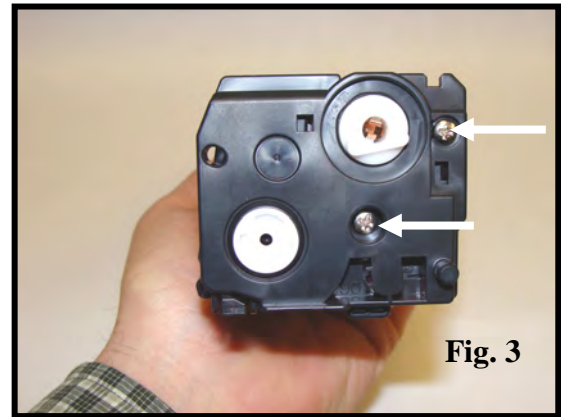

Fig. 3
3. Remove the two screws from the opposite side end cap (Fig. 3).